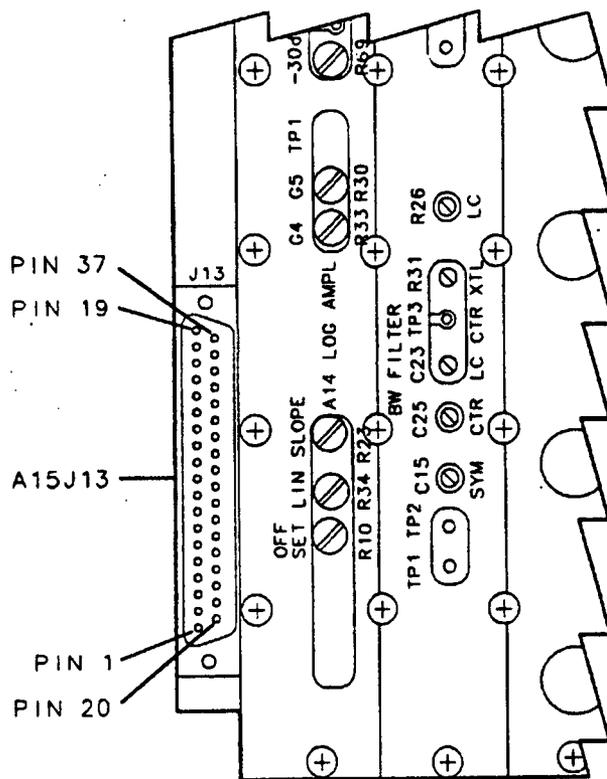

Figure 8-3. A15J13 Connector-Pin Designation
- **Figure 8-3, A15J13 Connector-Pin Designation.** Provides the pin numbering sequence for the connector that connects the AS Power Supply to the motherboard.